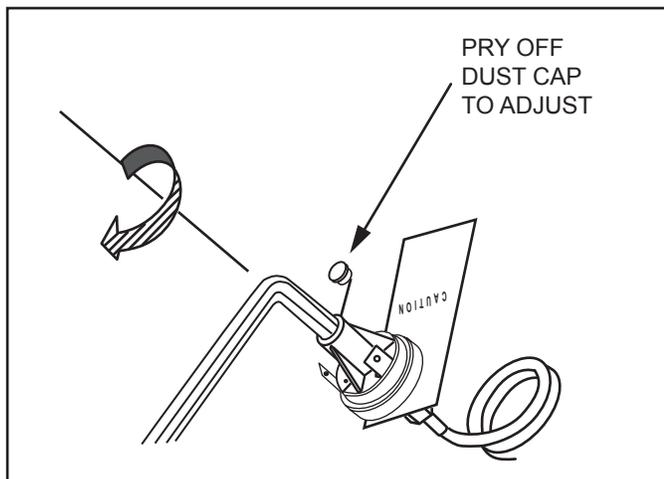

Fig. 3 Adjusting the Pressure Switch
3. Pry off the rubber dust cap (see Fig. 3).
6. Use a 7/32" Allen wrench to turn the adjustment screw very slowly **clockwise** until the switch opens (see Fig. 3).